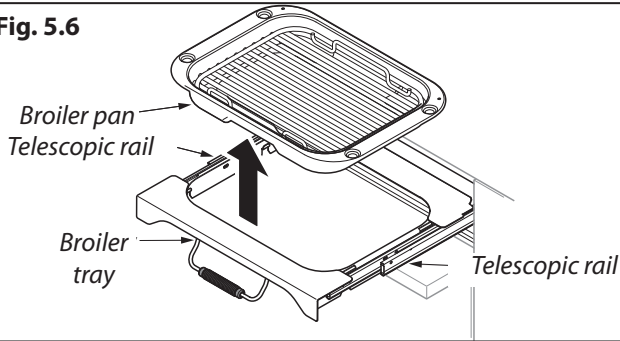

Fig. 5.7
3. If you need to remove the telescopic runners to allow cleaning of the broiler chamber, first remove the broiler tray then you can unhook them from the broiler chamber sides (**Fig. 5.7**).